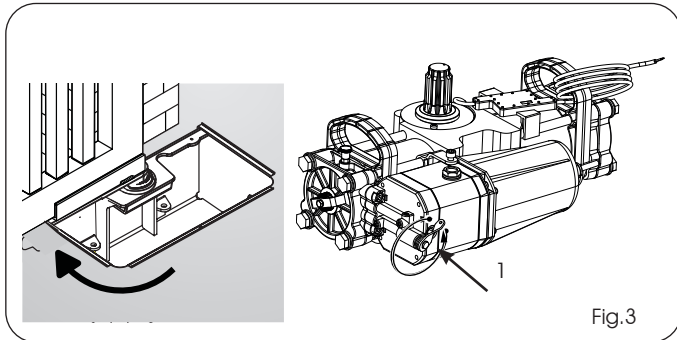

Fig.3
- 2) Hydraulically release the operator, using the release handle (Fig. 3 ref.1). Do not rotate the release handle more than one turn to avoid oil spills